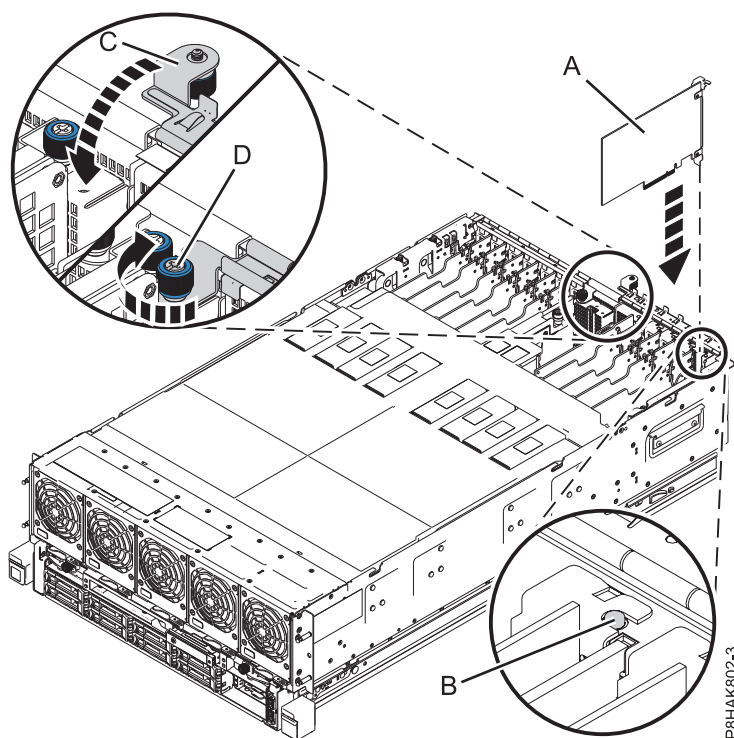

Figure 28. Installing or replacing a PCIe adapter in the 8408-44E or 8408-E8E system
7. Carefully grasp the adapter by its top edge or tailstock, and align the adapter with the slot and its connector on the system backplane (A), as shown in Figure 28.
9. Ensure that the tailstock notch engages with the pin on the system's chassis. See (B) in Figure 28.
10. Close the I/O retention bracket (C) by rotating it down and then tighten the captive thumbscrew (D) until it is secured to the system's chassis. See Figure 28.